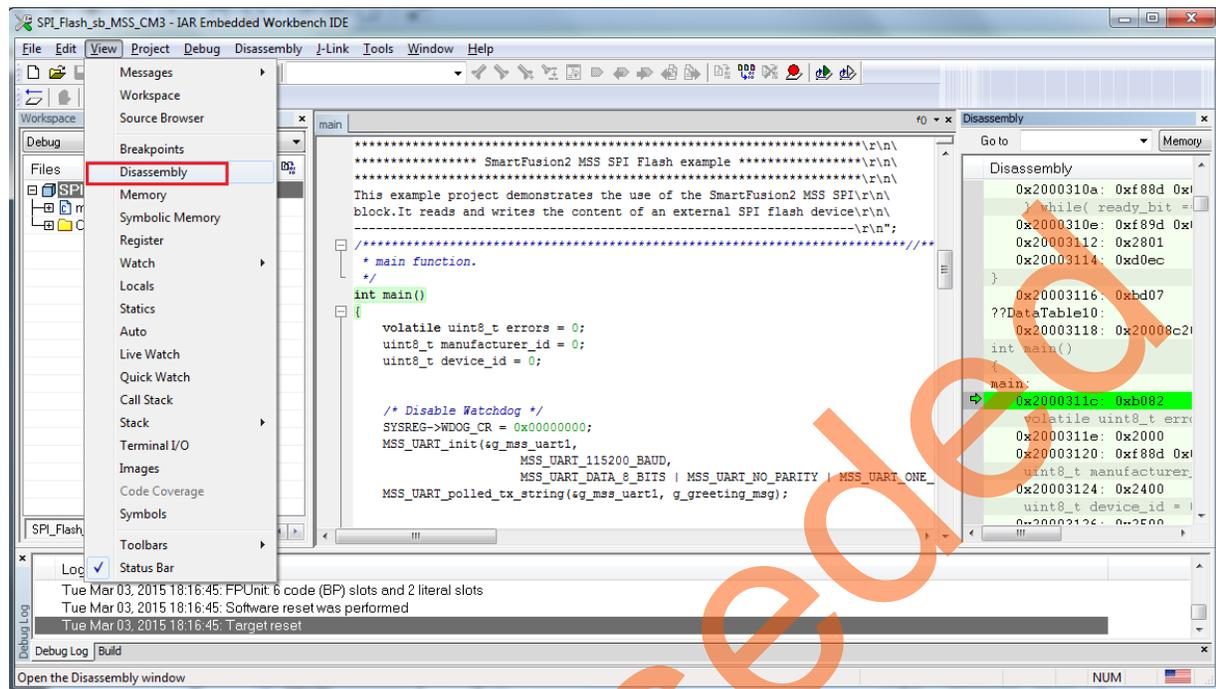

Figure 48 • Assembly Level Instructions
- Click **View > Disassembly** to view the values of variables in the source code, as shown in Figure 48.